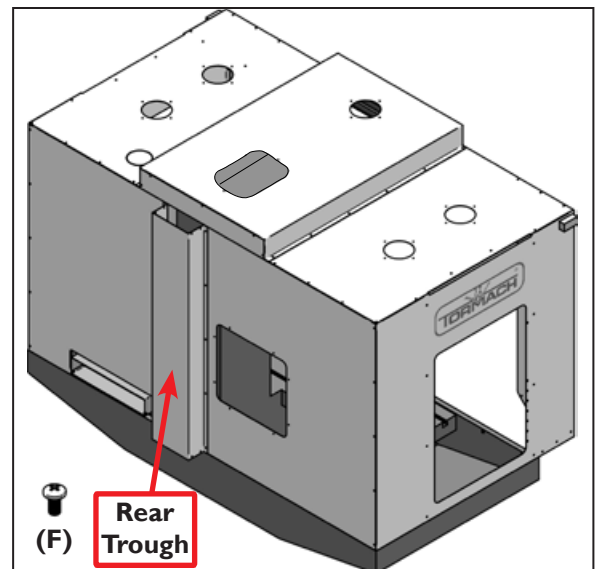

Figure I4
- 36.** Place the Rear Trough (E.26) onto the center back see **Figure I4**. Loosely fasten with (F) screws along side of panel.